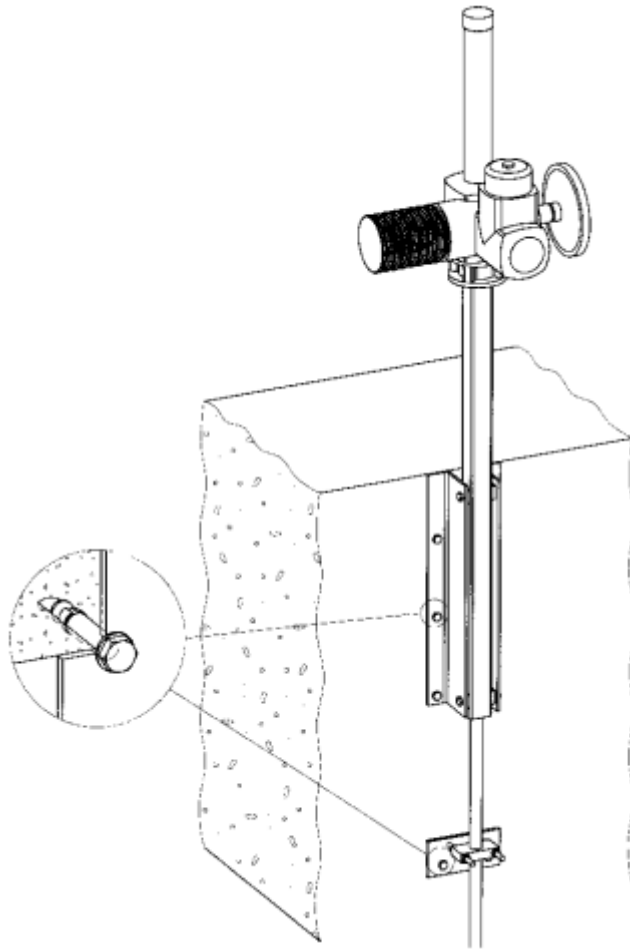

Abb. 11
- Align coupled extension rod with plumb and level acc. Fig. 11.